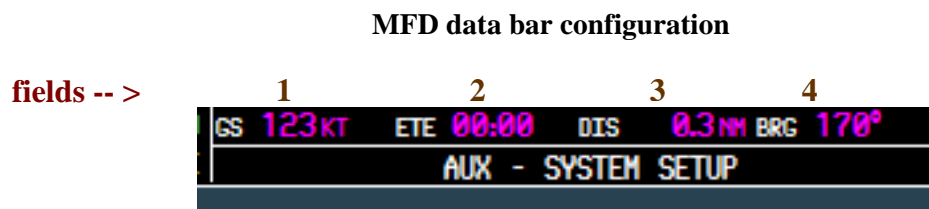

Figure 5.27
7. **MFD data bar fields box** - used to change the MFD data bar display configuration. There are 4 fields that can be configured in the MFD data bar fields box (Figure 5.27).